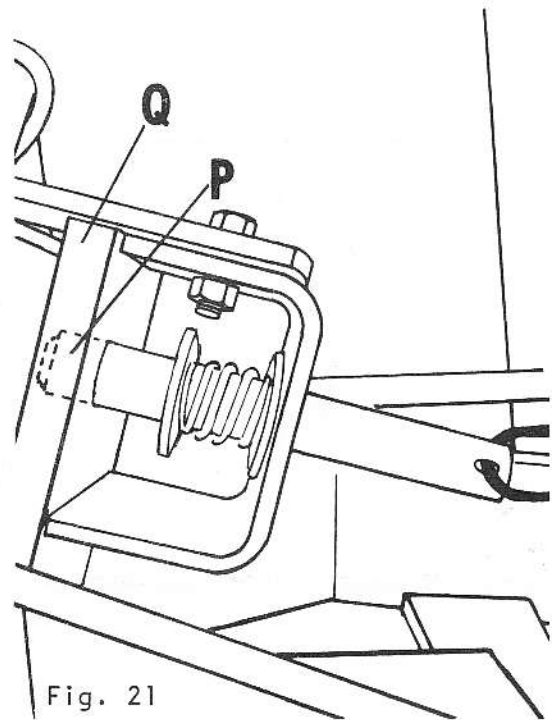

Fig. 21
The pin release rod is adjusted correctly when dozer angle lock pin (P) is flush with the front of pin housing (Q). To move pin forward lengthen pin release rod. To move pin rearward shorten pin release rod. (See Fig. 21)
1. Disassemble manual angling parts from dozer blade (See Fig. 1) (E), pivot control arm (G), pin release rod (H), pivot control rod front (J), pivot control rod rear (K), pivot control handle and dozer angle lock pin (P). (See Fig. 21)